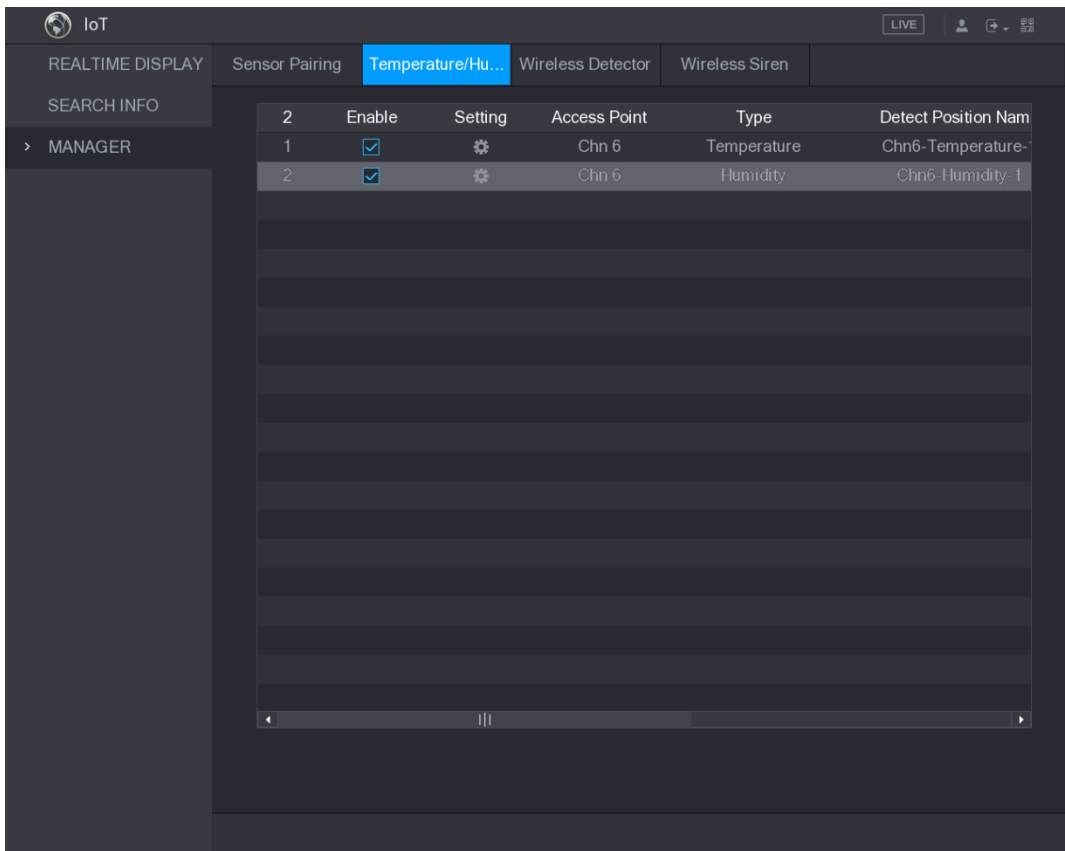

Figure 5-186
Step 2 Select the **Enable** check boxes to enable IoT function. See Figure 5-186.